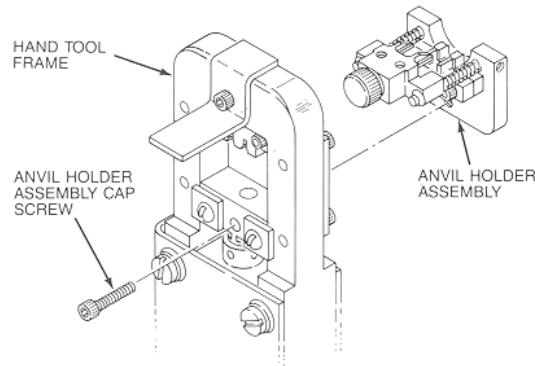

Figure 7
- Using a 7/64-inch Allen wrench, remove the cap screw securing the anvil holder assembly to the hand tool (see Figure 7). Then remove the anvil holder assembly.